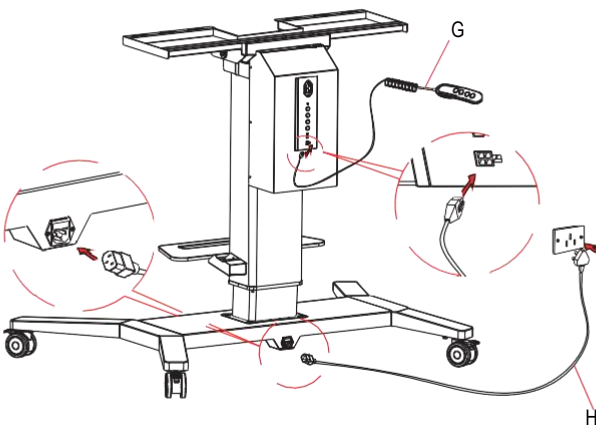

figure 5
Step5: When using the Electric Stand, the control pad and the AC power cable should be connected to the Electric Stand, and connected to the power supply (figure 5).